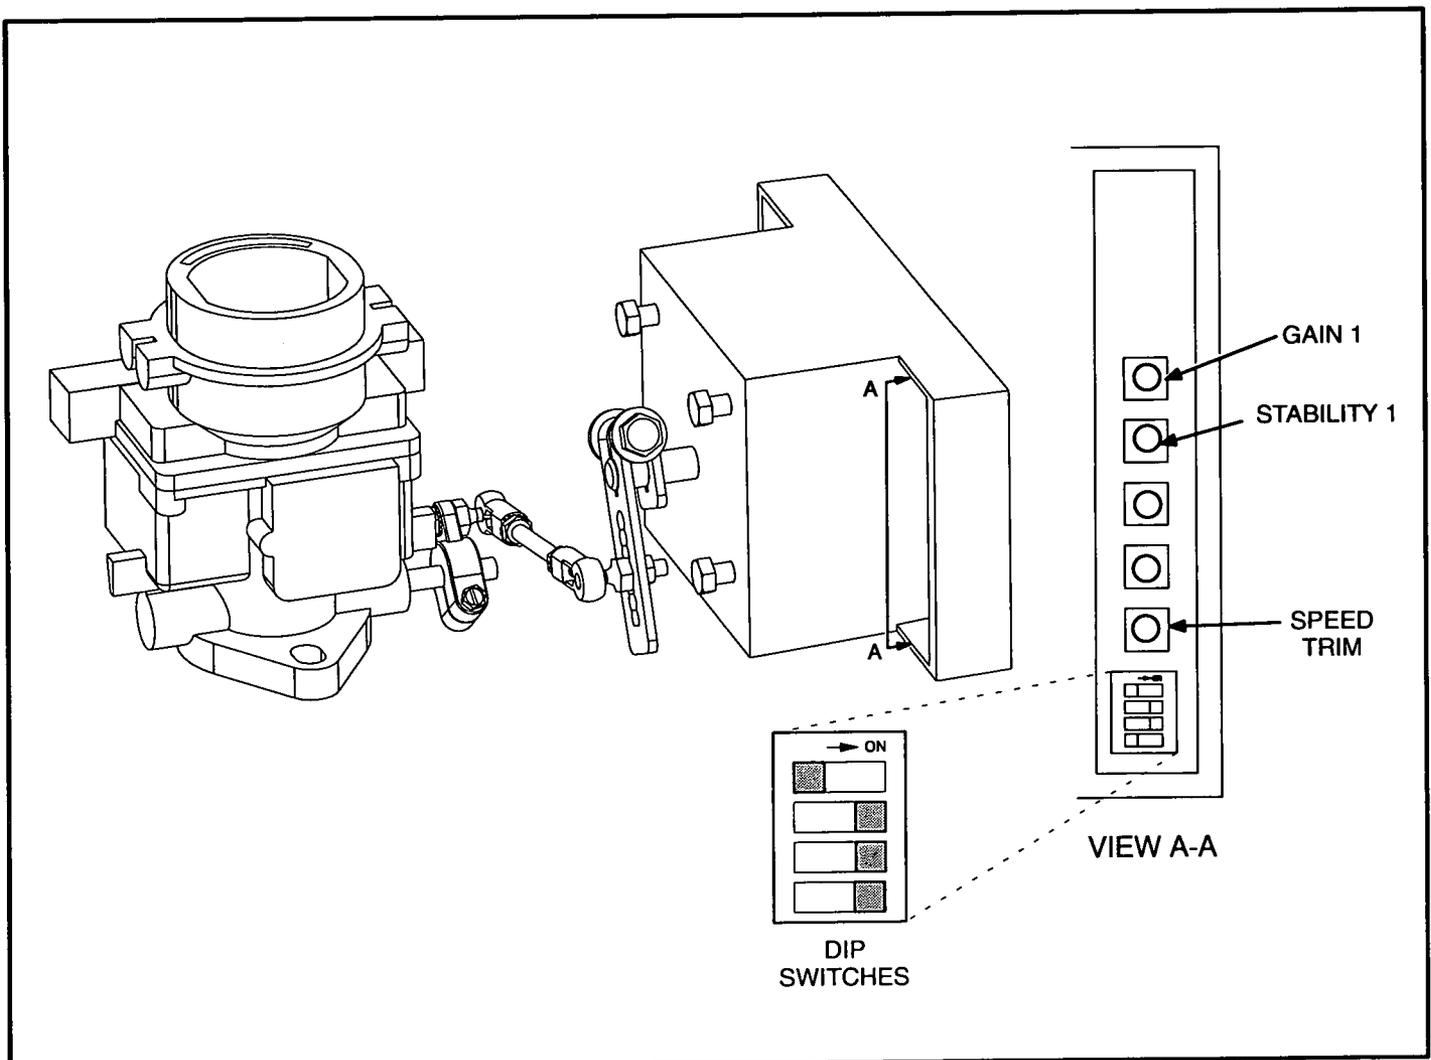

FIGURE 7. GOVERNOR CONTROLLER
1. Check the dip switch settings (Figure 7) to make sure they are set properly, as follows: